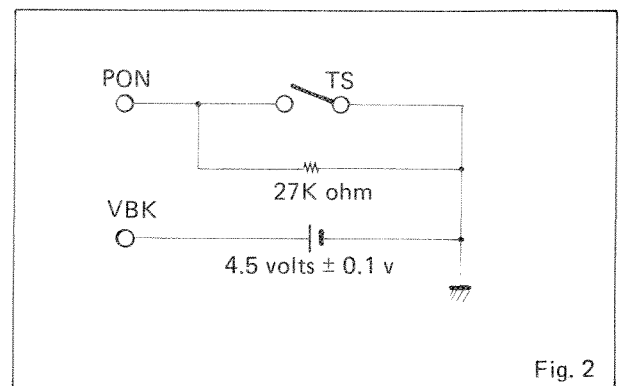

Fig. 2
Circuit diagram as shown in Figure 2 should be provided for initial clear and RAM Back up circuits purpose only.
2. Waveforms as shown in Figure 2 should be obtained when \searrow and \swarrow are set to OFF and ON, respectively.